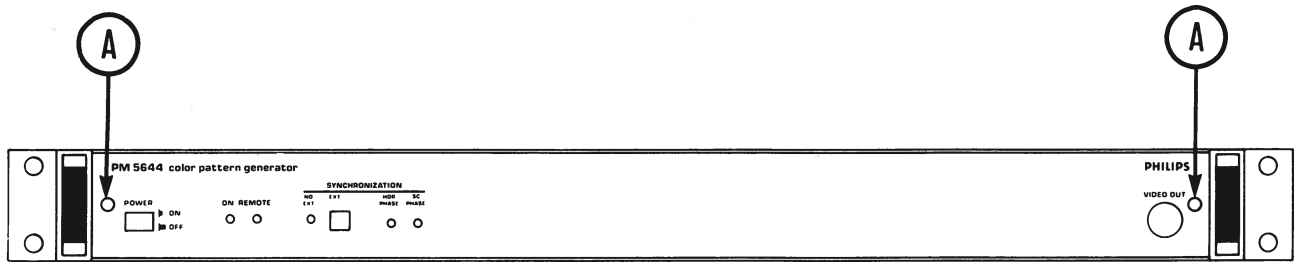

Fig. 5-3 Removal of the front panel
- Loosen the screws "A" (see fig. 5-3) and remove the instruments front panel.